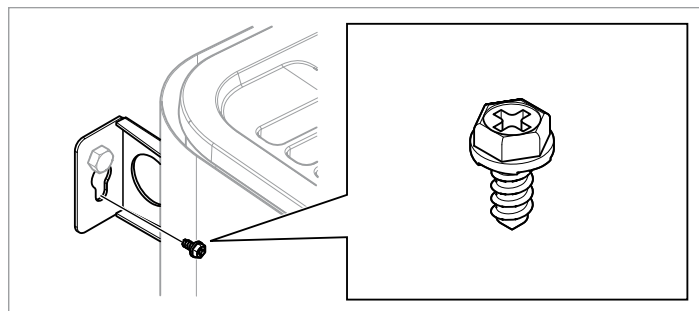

Figure 11: Lock screw for bracket
- 9. Lock the heater into place with the lock screw see Figure 11, Page 7.